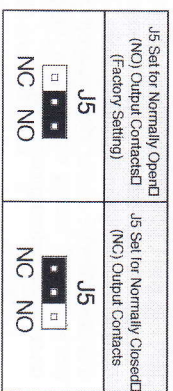

FIGURE 20 – RUN RELAY OUTPUT MODE SELECTION
E. Run Relay Output Mode Selection (J5) – Jumper J5 is factory set to “NO” position for normally open relay output at TB4. For normally closed relay output, set Jumper J5 to “NC” position. See Figure 20.